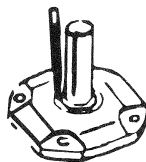
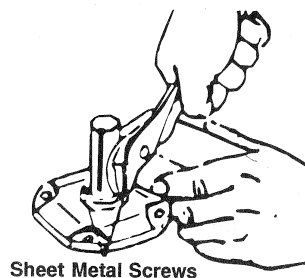

Figure 1
Figure 2
- C. See Figures 1 through 4 – To replace seals without dismantling reducer, proceed as follows:
Do not damage shaft; new seals will leak if seal contacting surface is marred. Use punch and place two or more holes in steel casing of seal, Figure 1. (The steel casing may be rubber coated) Insert sheet metal screws, leaving the heads sufficiently exposed so they can be pried up or grasped with pliers, Figure 2. Do not drill holes because chips may get into the unit.